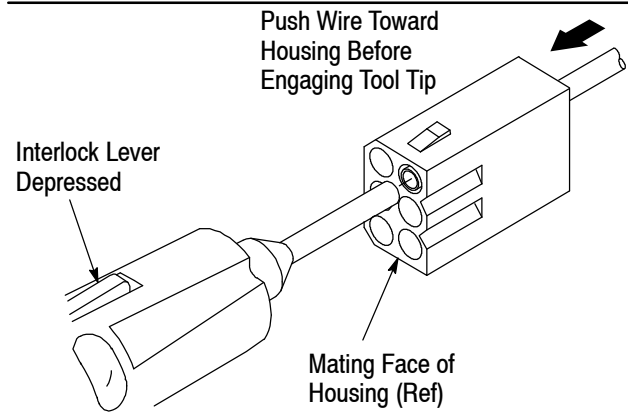

Figure 3
**3. EXTRACTION PROCEDURE** (Figure 3)